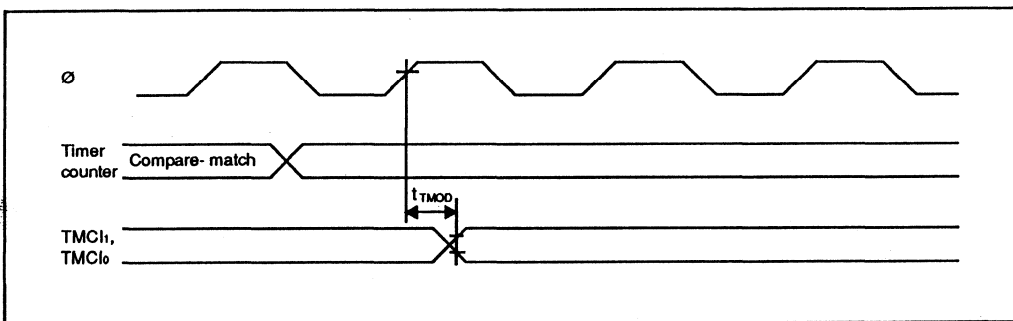

Figure 17-13. 8-Bit Timer Output Timing
17.3.4 8-Bit Timer Timing	Figures 17-13 to 17-15